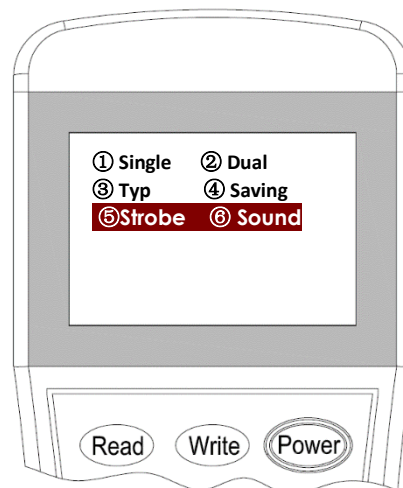

Figure 14
3. Input the "**5**" for **Strobe** type or "**6**" for **Sounder** type, then press "**Write**" to change the setting into the desire mode (Figure 14).